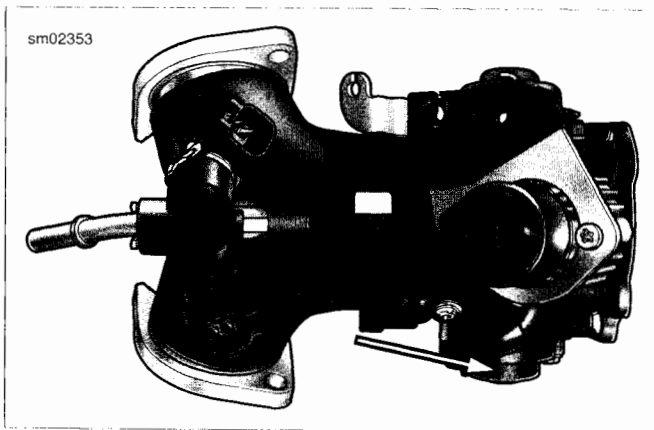

Figure 4-12. Throttle Position Sensor
4. See Figure 4-12. Unplug TP sensor connector [88].